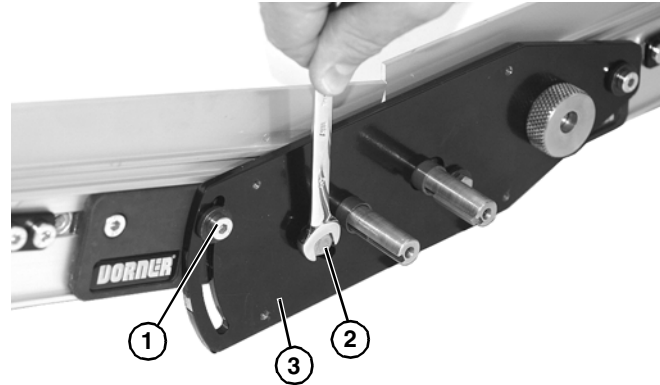

Figure 19
7. Install M6x25 low head capscrew (Figure 19, item 1). Adjust conveyor angle and tighten. Repeat on opposite side.
8. Install washer and M6x25 hex head capscrew (Figure 19, item 2) from slave drive plate (Figure 19, item 3). Repeat on opposite side.